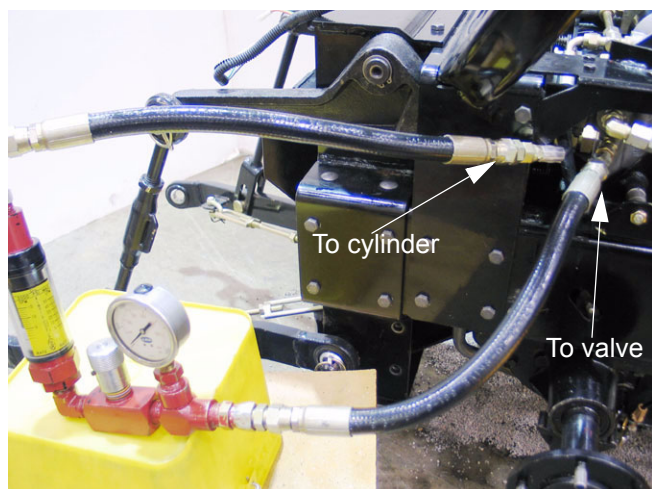

Figure 8.23
- 8.23. Connect the test kit to the 3/8" flare fittings. The pressure gauge should be near the valve, and the flow meter should be near the cylinder. See Figure 8.23.